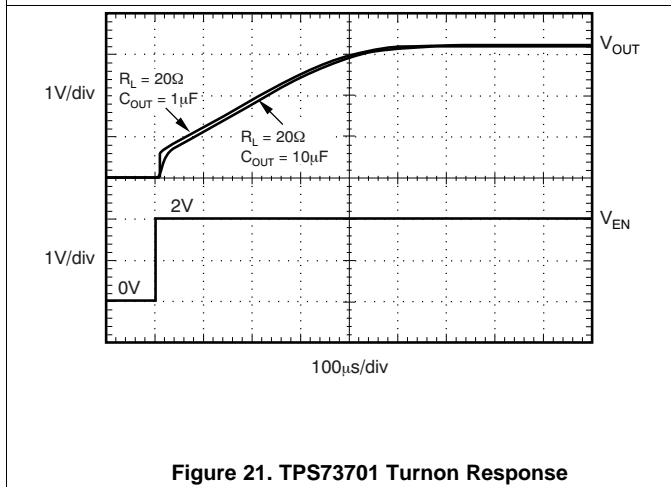

Figure 21. TPS73701 Turnon Response
The enable pin (EN) is active high and is compatible with standard TTL-CMOS levels.  $V_{EN}$  below 0.5 V (maximum) turns the regulator off and drops the GND pin current to approximately 10 nA. When EN is used to shutdown the regulator, all charge is removed from the pass transistor gate, and the output ramps back up to a regulated  $V_{OUT}$  (see Figure 21).